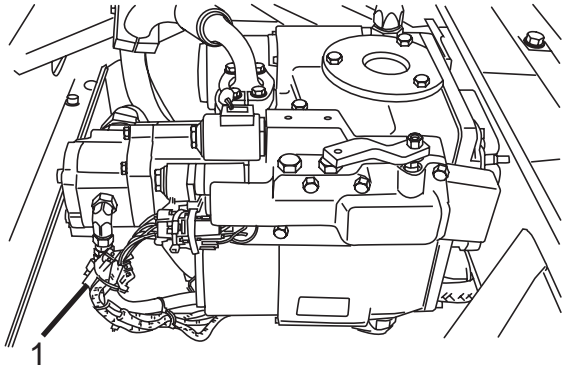

Figure 8
- 4. **For Traditional Controls with RE (Remote Electric Controls) Only:** Connect the main electrical connector (Figure 8, Item 1) to the charge/discharge coils. Proceed to Step 8.